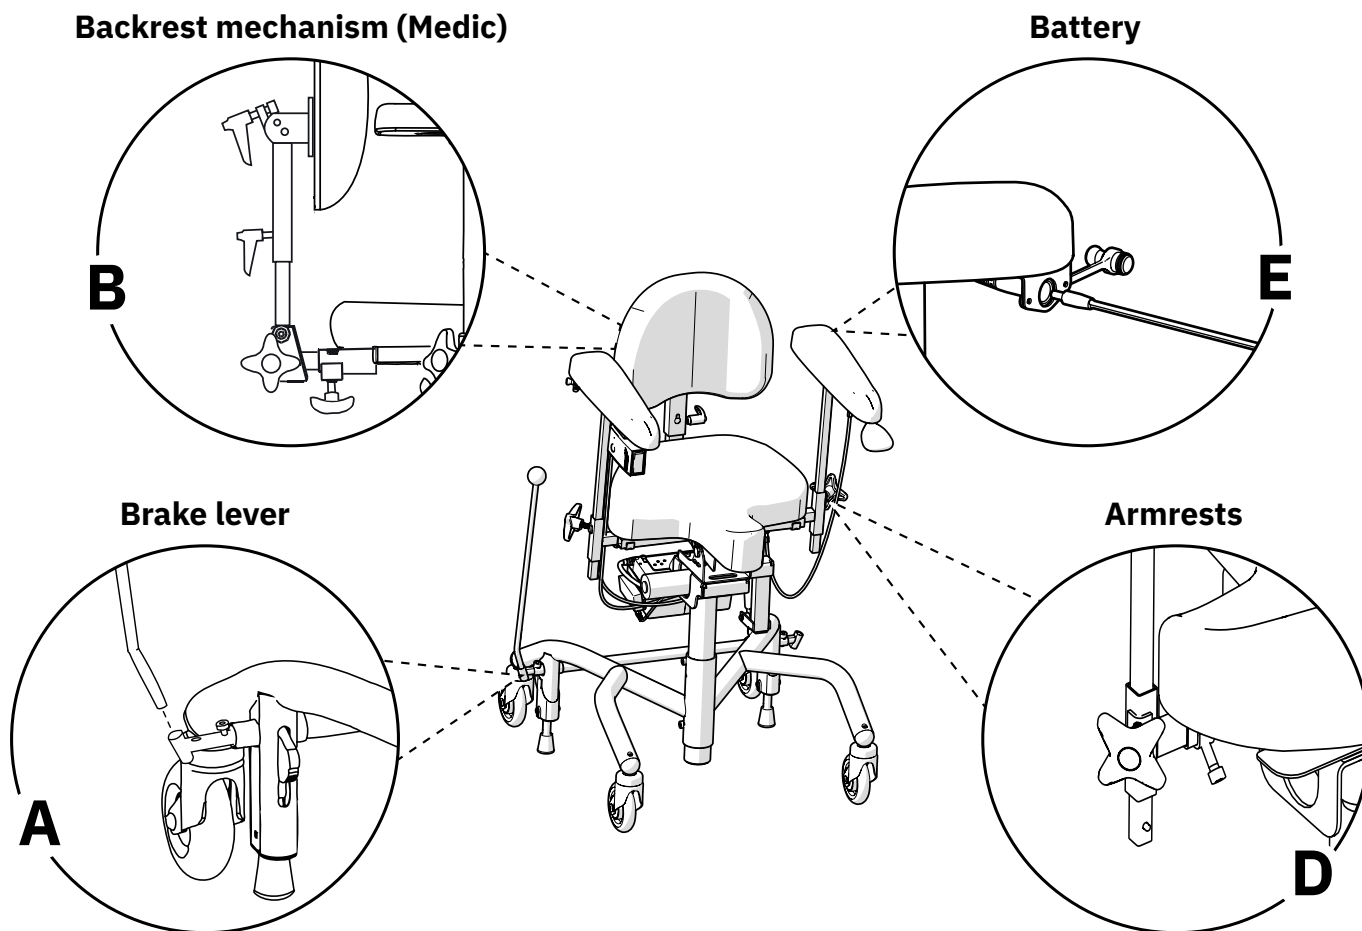

Figure 2.1. Preparations before starting to use models with back support.
For models with a brake lever, insert the brake lever into brake-lever bracket (A) (see Figure 2.1). The brake lever can be placed on the right or left side. For models with a foot brake, no installation is necessary.
For models with back support, insert the backrest pole into the backrest mechanism (B) and adjust to the desired height (see Figure 2.1). Tighten all controls (B). The image shows one of several back mechanisms available for Mercado Medic devices. Other back mechanisms are mounted in the same way, although the appearance may differ from that in the image.
For models with armrests, loosen the armrest control (D) and adjust to the desired height and width (see Figure 2.1). Tighten all controls (D).
Before first use, the battery in electric models must be activated and/or charged. This is done by connecting the battery charger to the device's charging outlet and to a wall outlet (E), see Figure 2.1. The charging outlet can be placed in different places on the device. The most common is that the device comes with the charging outlet mounted at the rear edge of the left armrest.